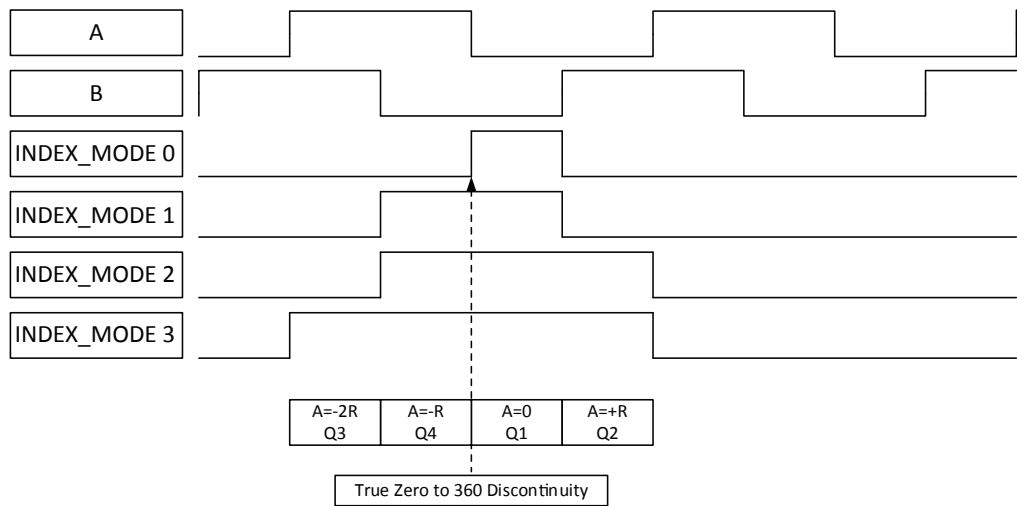

Figure 27: Index Pulse
The index pulse, I (or Z in some descriptions), marks the absolute zero (0) position of the encoder. Under rotation, this allows the receiver to synchronize to a known mechanical/magnetic position, and then use the incremental A/B signals to keep track of the absolute position. To support a range of ABI receivers, the I pulse has four widths, defined by the INDEX_MODE EEPROM field, as shown in Figure 27.